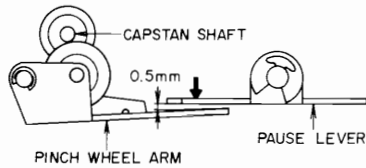

Fig. 1
1. PAUSE LEVER ADJUSTMENT (See Fig. 1)
Bend the part of pause lever indicated by arrow in Fig. 1 so that at playback mode, the gap between the pinch wheel arm and pause lever is more than 0.5 mm.